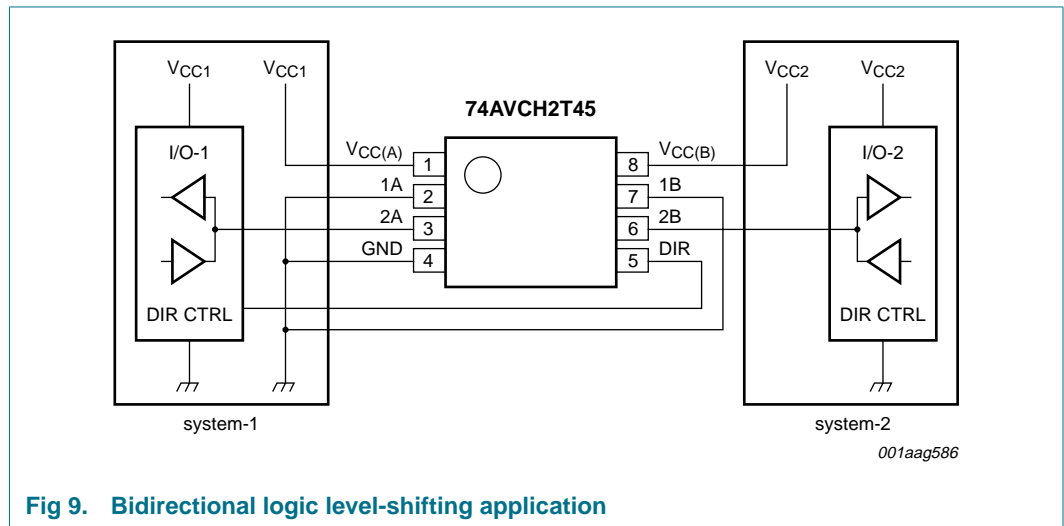

Fig 9. Bidirectional logic level-shifting application
Figure 9 shows the 74AVCH2T45 being used in a bidirectional logic level-shifting application. Since the device does not have an output enable (OE) pin, the system designer should take precautions to avoid bus contention between system-1 and system-2 when changing directions.